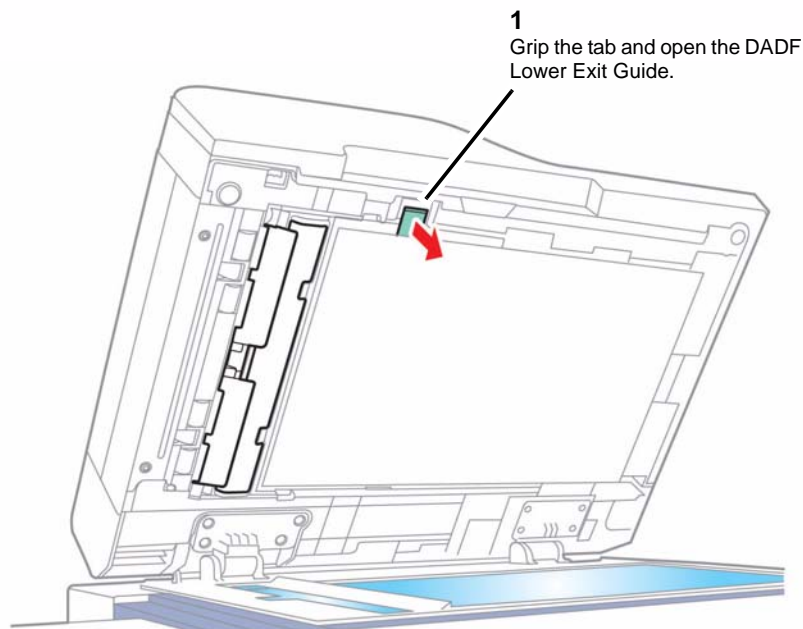

Figure 1 Opening the DADF Lower Exit Guide
3. Open the DADF Lower Exit Guide (Figure 1).